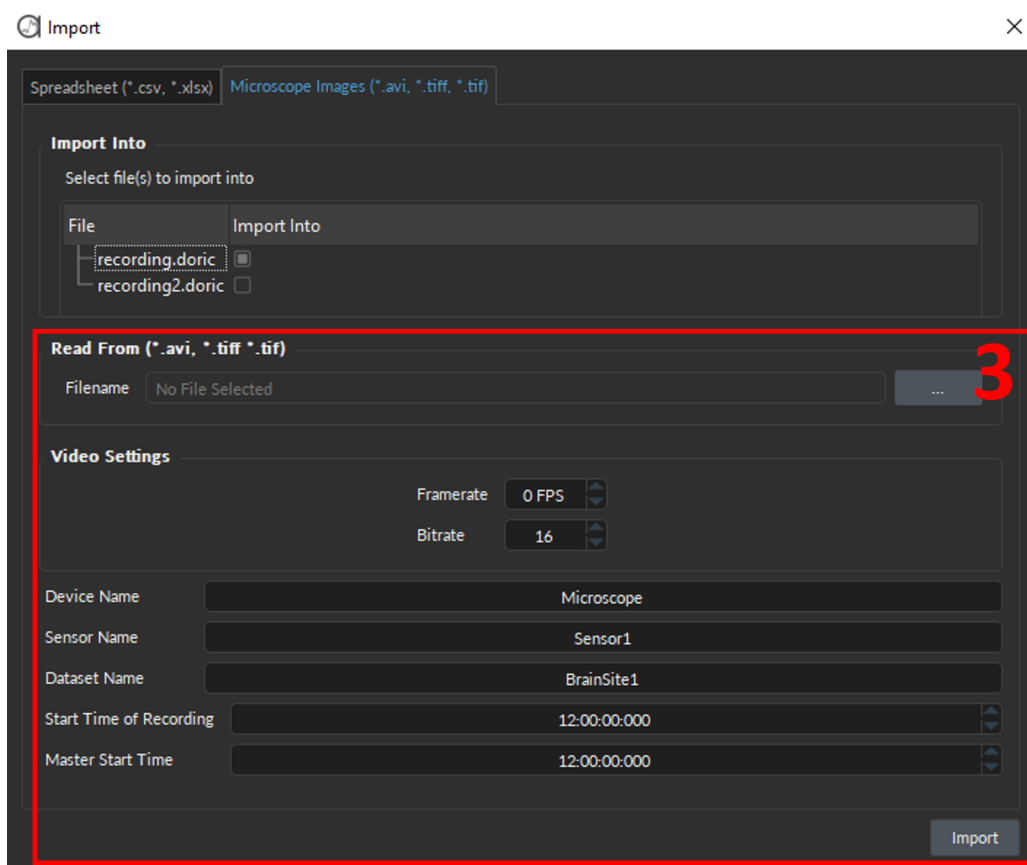

Figure 13.19: Import, Microscope-specific parameters
3. The **Microscope Image** specific parameters in Fig. 13.19 are identical to the parameters details in Section 13.2.2.2.